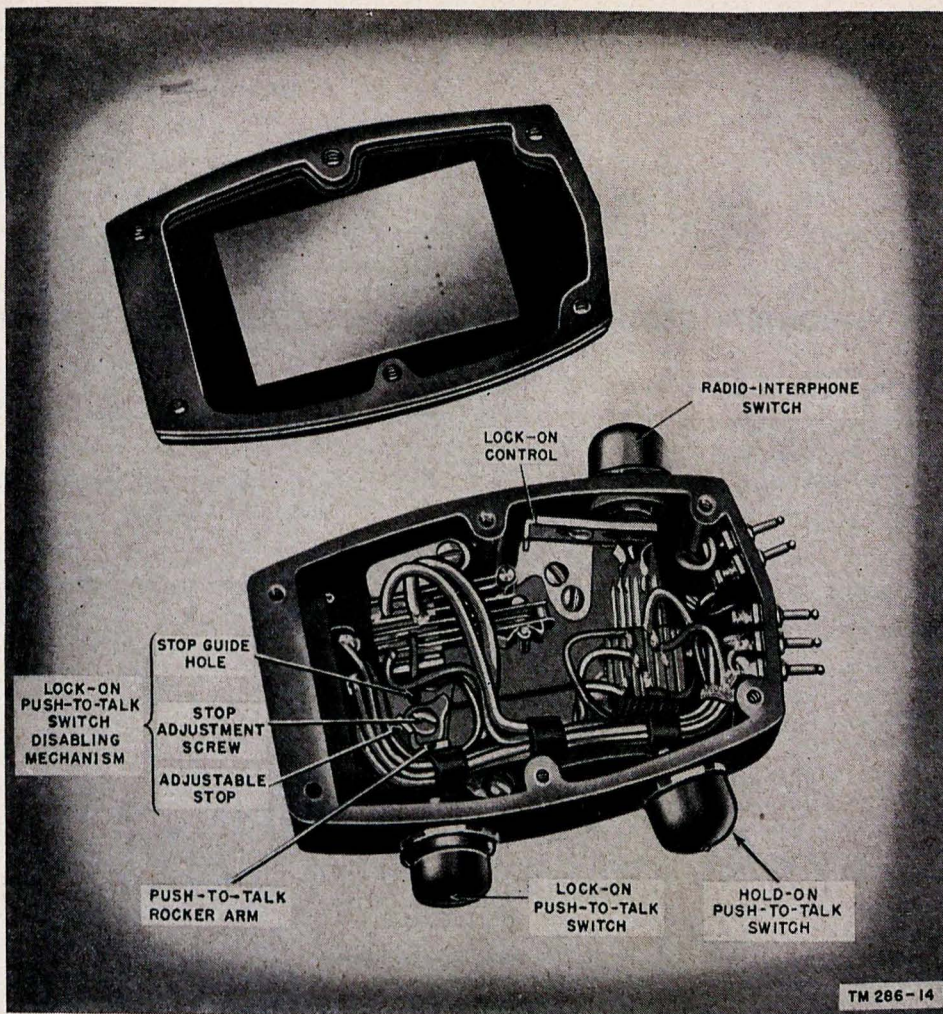

Figure 25. Chest Set Group AN/GSA-6, internal view.
the internal adjustable stop (fig. 25) against the push-to-talk rocker arm. To move the stop, remove the switch-box cover, loosen the stop adjustment screw, lift and turn the stop until the pin on the stop engages the stop guide-hole, and re-tighten the screw.
- (2) When the chest set is used at the amplifier, the receiver-transmitter, or the local control unit, the RADIO-INT switch should be locked in the RADIO position. To lock the switch, remove the cover of the switch box, press the RADIO-INT button, and slide the lock-on lever towards the switch (fig. 25) to hold the button depressed.